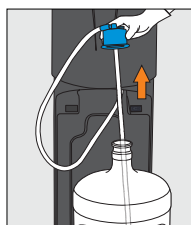
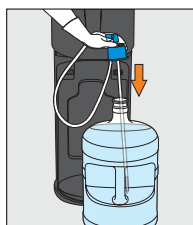

Figure 17
Figure 18
6. Remove bottle adaptor from the empty bottle (Figure 17) and place directly into the top of the new, full bottle (Figure 18)